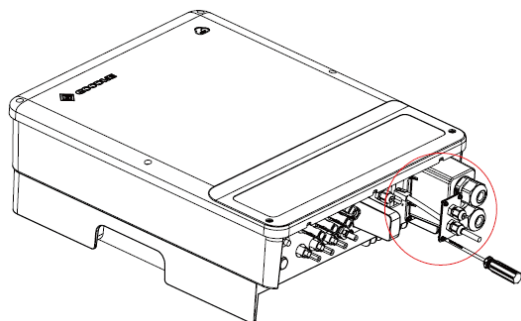

Figure 28 Connection of the Communication Cables on the Inverter Side-Removing Waterproof Baffle
Step 9 Please remove the waterproof baffle of the inverter at first as shown in Figure 28.